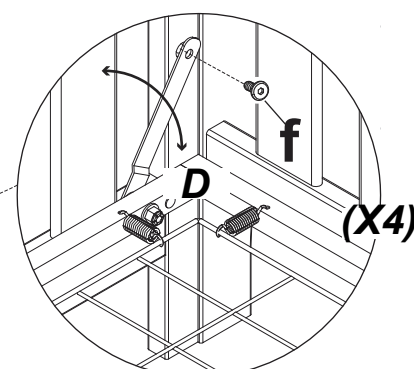

Figure 10 :
STEP 10 Mattress Base Assembly as shown on Figure 10.